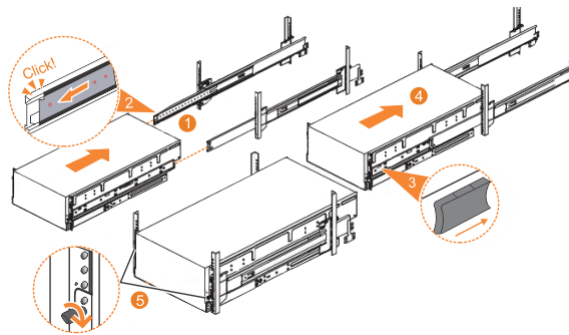

Figure 52. Replacing the 5U enclosure in the rack
1. Fully extend the left and right drawer sections from the rack to lock the rails in the extended position (1 in Figure 52 on page 88).
2. Ensure that the ball bearing retainer clicks into place inside the front of the left and right drawer sections (2 in Figure 52 on page 88).
6. Locate the left and right blue release tabs near the front of the enclosure. Press both release tabs forward to unlock the drawer mechanism (3 in Figure 52 on page 88).
7. Push the enclosure firmly into the rack (4 in Figure 52 on page 88).
8. Tighten the locking thumb screws (5 in Figure 52 on page 88) to secure the enclosure in the rack.